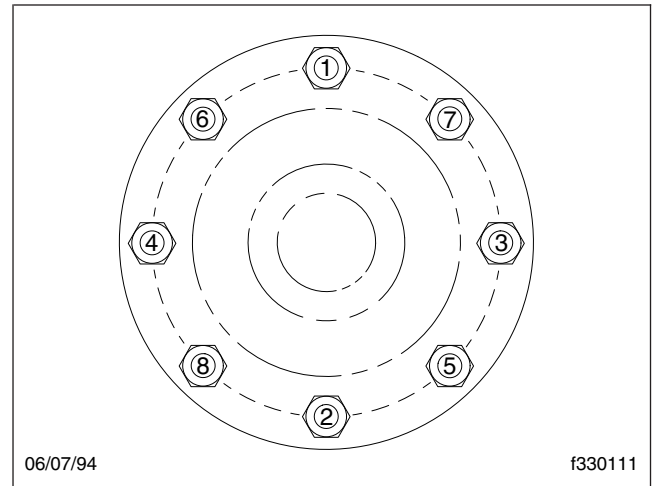

Fig. 5, Tightening Sequence, Drive Axle Stud Nuts
8. If equipped, install the dowels and washers on the drive axle studs. Install the drive axle stud nuts. Using the sequence shown in Fig. 5, tighten the nuts to the torque values given in the table in Specifications, 400.